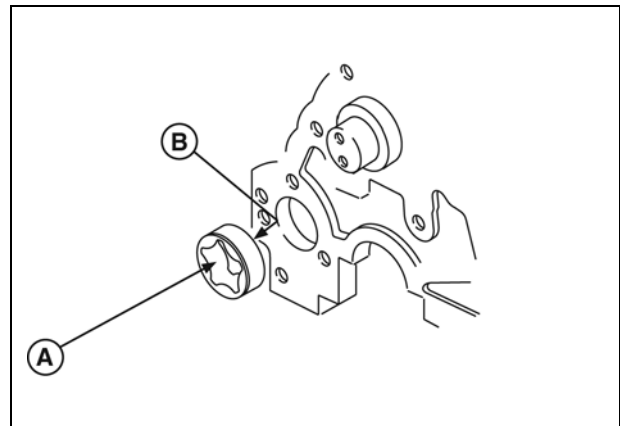

Figure 13
1. Clean and lubricate oil pump rotor (**A**, Figure 13) with engine oil and install in cylinder block.